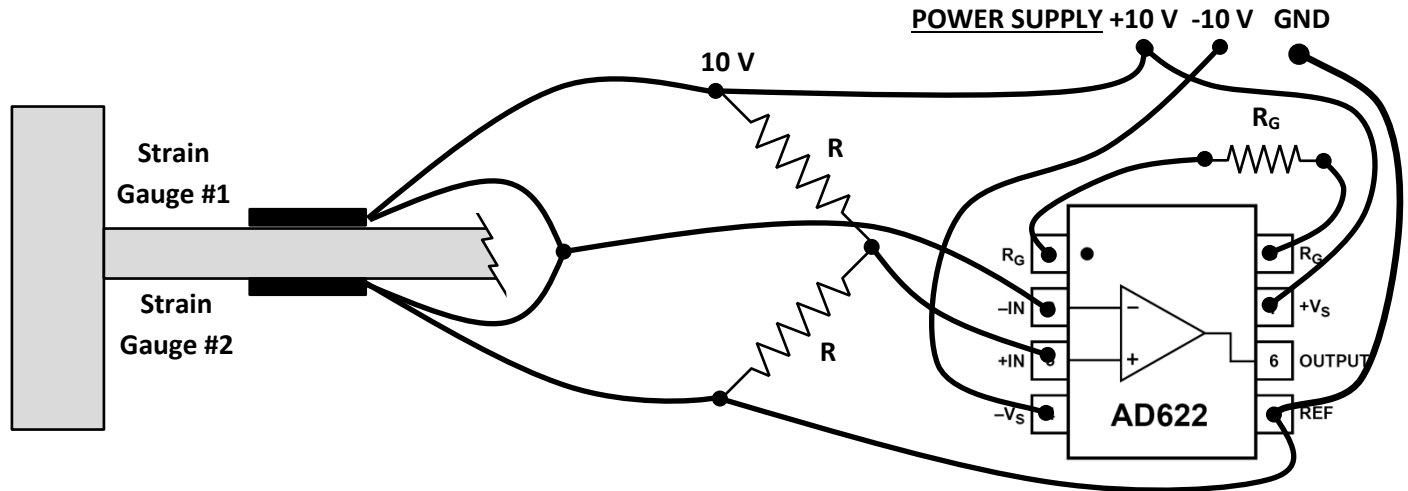

Figure 2. Two strain gauges mounted on a cantilevered beam and a half arm Wheatstone bridge circuit.
- 4) On a breadboard, build a half arm Wheatstone bridge circuit as shown in Figure 2. Use the two strain gauges mounted to the cantilevered beam as resistors R#1 and R#2. Use matching precision resistors ($120\ \Omega$ or $350\ \Omega$) for R.
- 6) Make sure to connect the excitation ground to the REF pin on the instrumentation amplifier (Figure 2).
- 7) Provide the amplifier and the bridge with a 10V excitation voltage (Figure 2). Use the table-top DMM and Simulink to measure the amplified output voltage, $V_o G$, from the instrumentation amplifier to check that your measurement system is working properly.